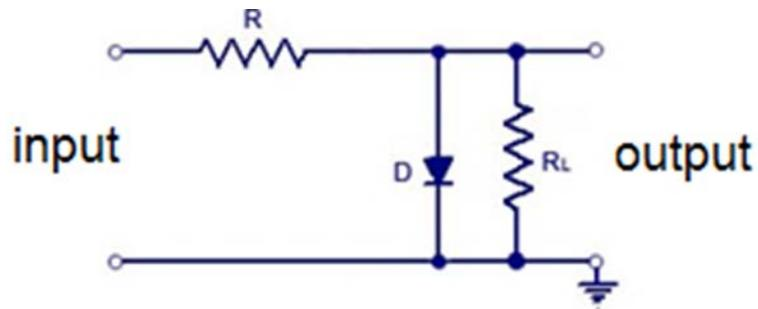
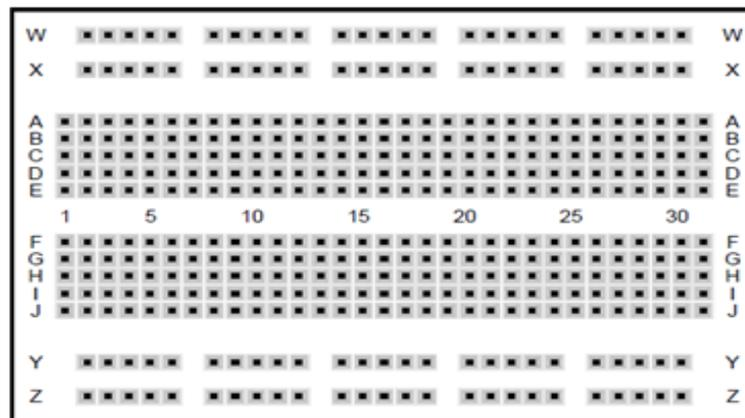

FIGURE 4.7.7
FIGURE 4.7.8
4.7.3 Construct the simple parallel clipper circuit in FIGURE 4.7.7 below on the breadboard in FIGURE 4.7.8 below. Draw the component layout on the figure.